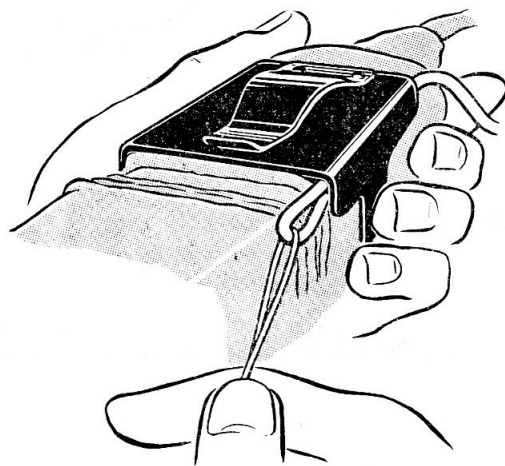

Fig. 7. Connecting the beacon to the battery switch pin—1st stage
(2) Holding the beacon as shown in fig. 7, loop a length of wire or suitable cord through the length of cord provided, thread between the clip and the beacon and pull through.